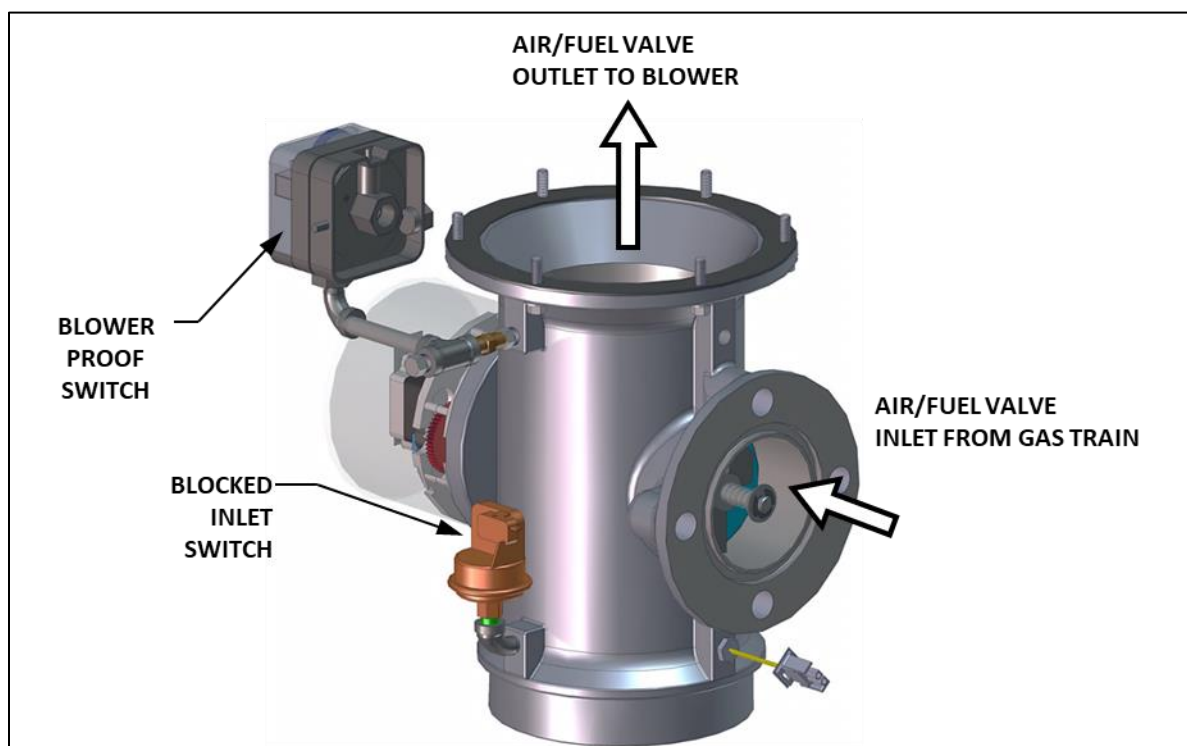
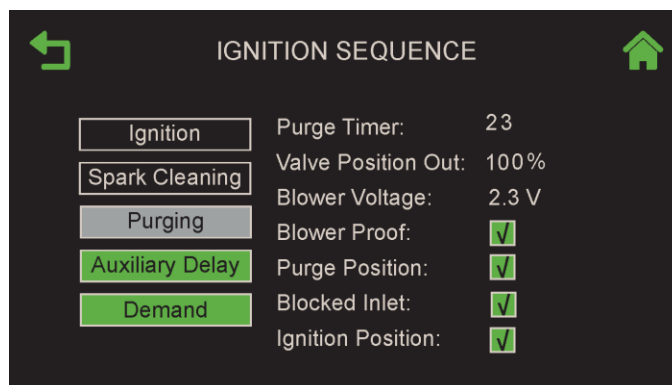

Figure 3-3: Blower Proof Switch and Blocked Inlet Switch
Figure 3-4: Ignition Sequence Screen – Purging
5. Next, the Blower Proof and Blocked Inlet switches close (Figure 3-3). On the Ignition Sequence screen, the **Purging** indicator turns grey while purging is underway (Figure 3-4), and **Purge Timer** displays the purge cycle's elapsed time in seconds.
- b) The Spark Cleaning cycle begins (default duration = 7 sec.) and the Ignition Sequence screen's **Spark Cleaning** indicator (Figure 3-3) turns grey. This cycle turns on the ignition transformer to produce a spark (with no gas flowing) to remove moisture and carbon buildup from the spark element. For the duration of this cycle, the Controller displays the **Cleaning Igniter** status message.
- c) Following the Spark Cleaning cycle, power is applied to the gas Safety Shut-off Valve (SSOV). When the SSOV indicates the Gas Valve is OPEN (POC) and the Ignition Sequence screen's **Ignition** indicator (Figure 3-3) turns grey.